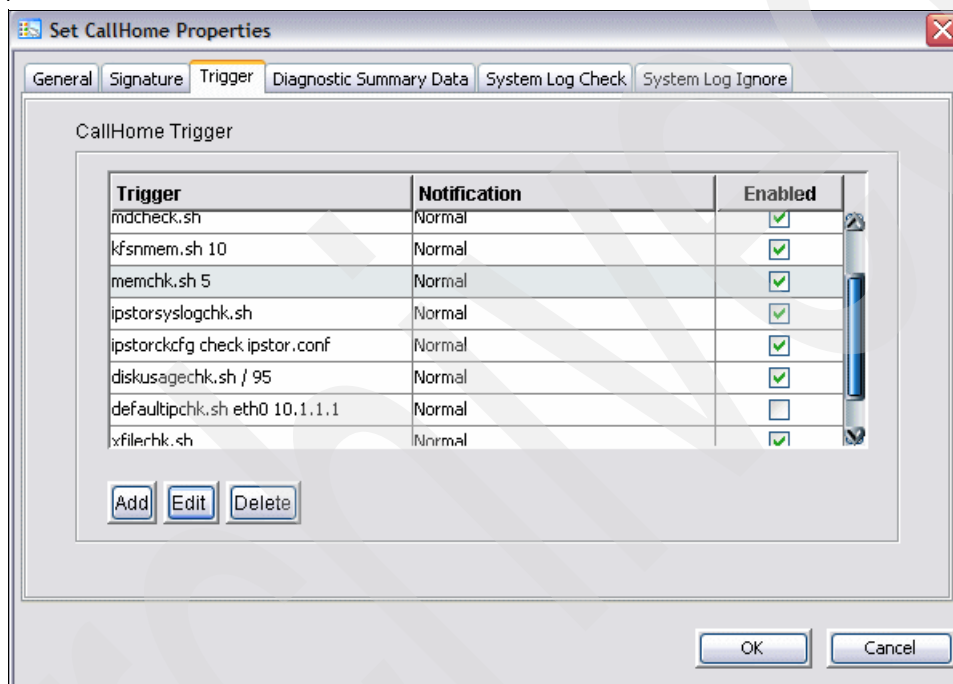
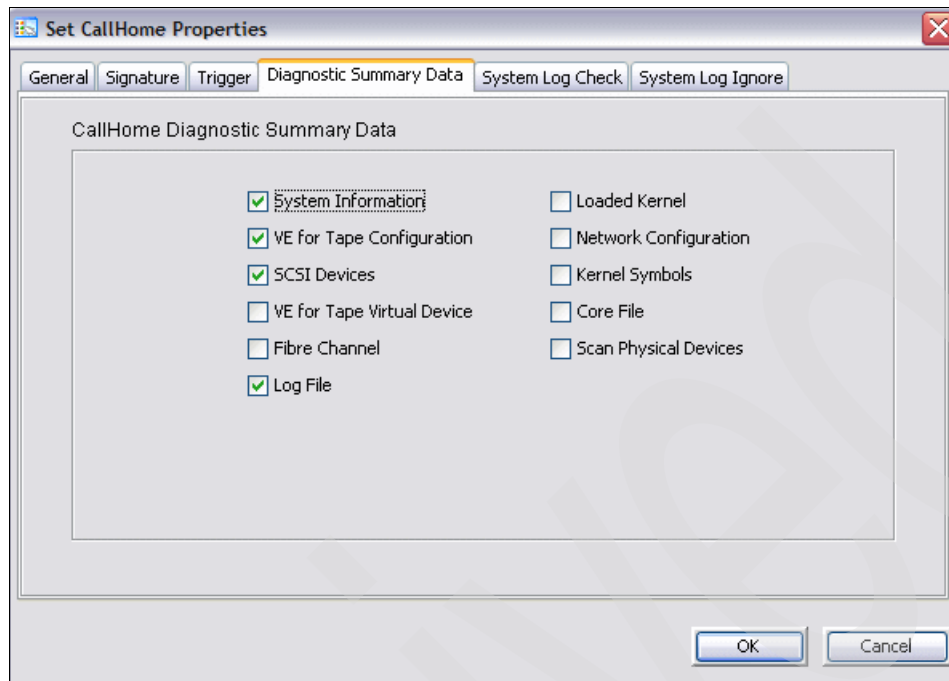

Figure 7-22 CallHome: Trigger event filtering
Figure 7-23 CallHome: Diagnostic Summary Data
Figure 7-22 shows the event trigger scripts already defined with most of them preselected. Figure 7-23 on page 272 shows the Diagnostic Summary data items available with some of them already selected for you.
In Figure 7-22, you can see the already enabled trigger scripts in the CallHome - Triggers Properties window. You can select or deselect each event script and add a new trigger if you are knowledgeable enough to do that.
3. When you have finished setting up the triggers, select the Diagnostic Summary Data tab to see a window like the one shown in Figure 7-23.